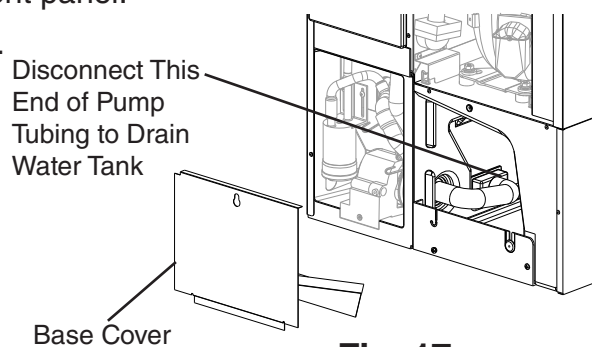

Fig. 17
- 3) Drain the water tank. Remove the base cover, then disconnect one end of the pump tubing to drain the water tank. See Fig. 17. After the water tank has drained, reconnect the pump tubing.